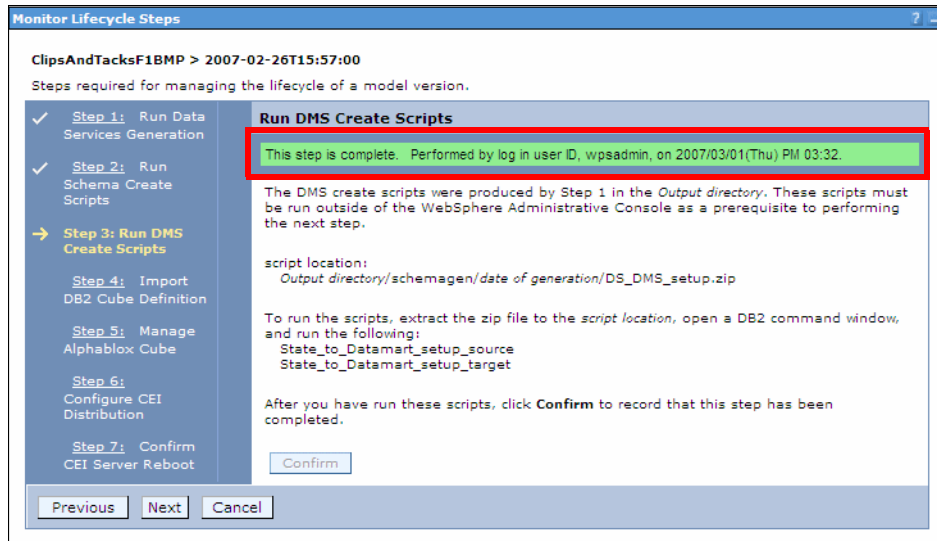

Figure 14-13 Monitor life cycle: Step 3 completed
- ▶ Messages should be displayed to indicate successful completion of this step (Figure 14-13).